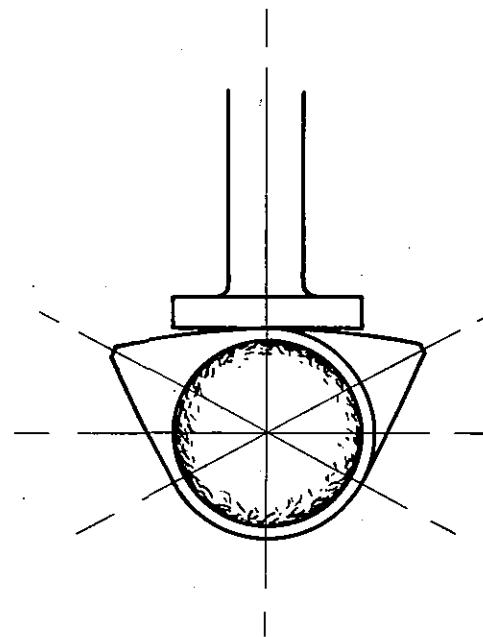

Fig. 24. Showing valve tappets at the point of balance or "rock."
3. Turn the camshaft until the exhaust and inlet valves for No. 4 cylinder are equidistant from their respective seatings or at the point of balance and the tappets, as shown in Fig. 24. (A feeler gauge may be used to check this clearance).